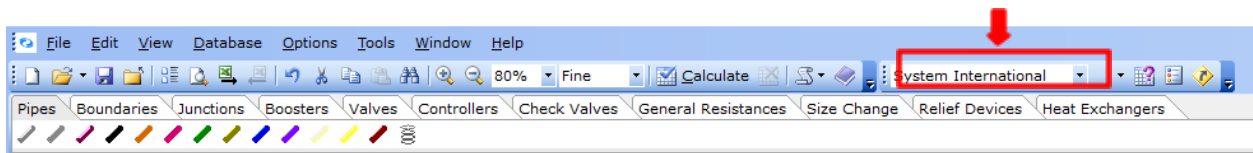

Figure 30: Unit Selector.
26. View the top portion of the user interface. The Units selector is on the middle portion (Figure 30):